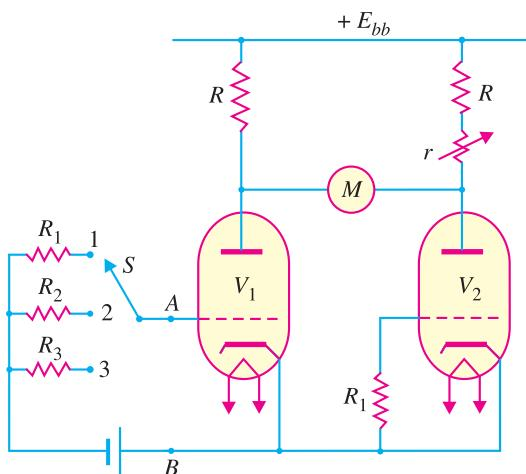

Fig. 22.16
**(iv) Resistance measurements.** A VTVM can be used to measure resistances and has the ability to measure resistances upto 1000 megaohms whereas the ordinary ohmmeter will measure only upto about 10 megaohms. Fig. 22.16 shows the circuit of VTVM ohmmeter. By throwing the selector switch  $S$  to any suitable position, the desired resistance range can be obtained. The unknown resistor whose value is to be measured is connected between points  $A$  and  $B$ . If the unknown resistance has high value, a higher negative bias will be applied to triode  $V_1$ . Reverse will happen if the unknown